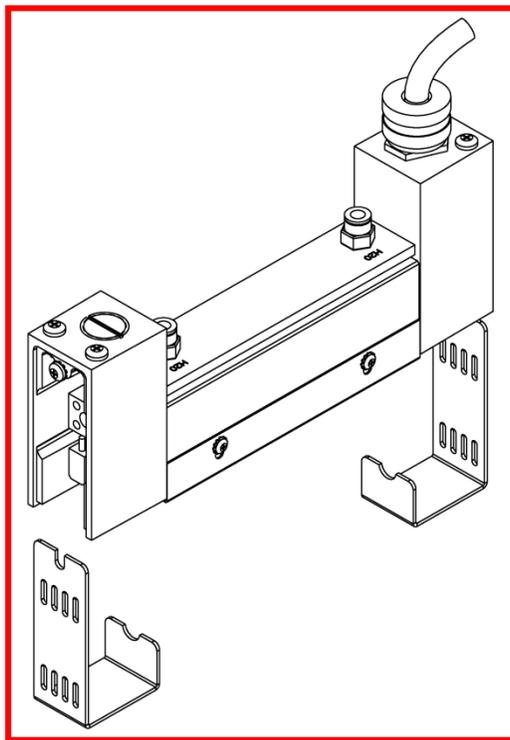

Figure 6-1. Model 5306 End Cover Removal.
6.1 LAMP REMOVAL/REPLACEMENT/INSTALLATION: The T3-style lamp is installed into the Model 5306 heater when shipped from the factory. The following procedure details the process to replace the lamps in the Model 5306 (reference Figure 6-1, 6-2, & 6-3):